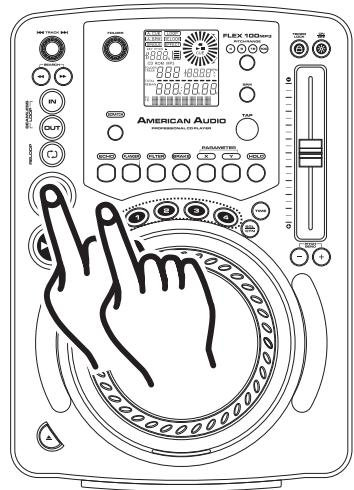
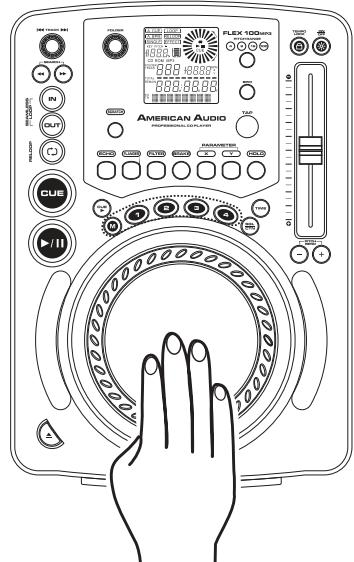

Figure 11
Figure 12
This feature allows you to scroll through a track frame by frame, allowing you to find and set a starting cue, sample, or loop point. To use the scroll function you must first be in Pause Mode (see section 6) or Cue Mode (see section 9). Once you are in Pause or Cue mode, turn the *JOG WHEEL* (14) to scroll through the track (Figure 12). Turning the wheel in a clockwise direction will advance the frame search and turning the wheel in a counter-clockwise direction rewinds the frame search. When you use the *JOG WHEEL* (14) the monitor (headphone level) function allows you to hear what you are scrolling through. Once you reach your desired starting point you can set a cue (starting) point by pressing the *IN BUTTON* (24) as in Figure 19. Pressing the *CUE BUTTON* (20) or *CUE PLAY BUTTON* (19) as in Figure 11 will now return you to the point you just set.